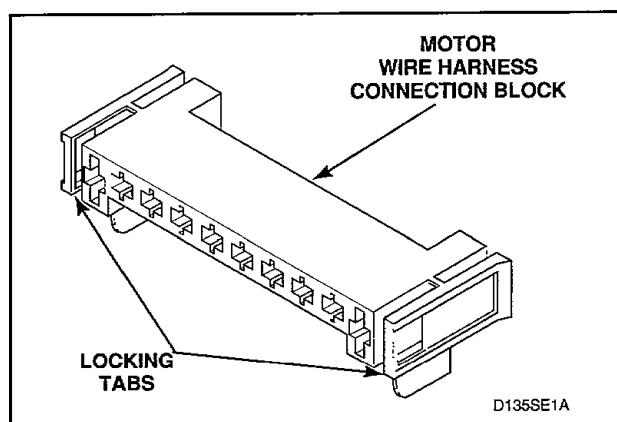

Figure 36
- g. Disengage motor wire harness connection block from motor switch by pressing in on the movable locking tabs (located on each end of the connection block) and pulling away from motor, *Figure 36*.
- (1) Disengage motor wire harness connection block from the motor by pressing in on the movable locking tabs (located on each side of the connection block) and pulling connection block away from motor, *Figure 36*.